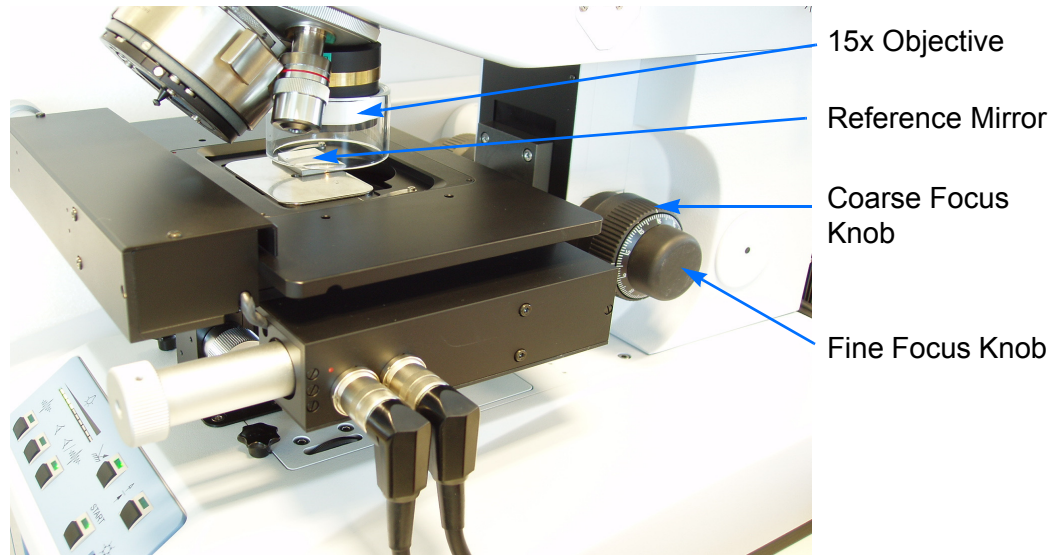

Figure 23: Preparing the Microscope for an OVP Test in Reflectance
- Focus on the mirror surface using the coarse and fine focus knobs. See figure 23. (Note: In case the mirror surface is free of scratches first focus on a mirror edge.)